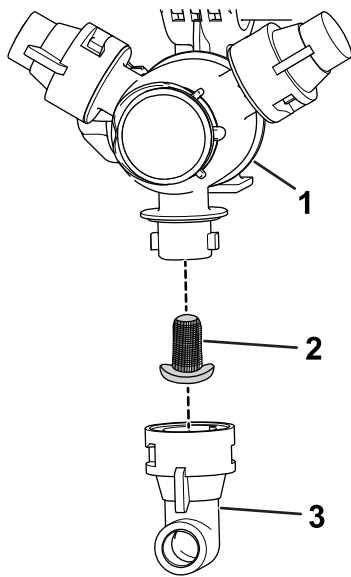

Figure 49
- Remove the nozzle from the spray turret (Figure 49).
- Remove the nozzle filter (Figure 49).
- Install the nozzle filter (Figure 49).
- Install the nozzle onto the spray turret (Figure 49).